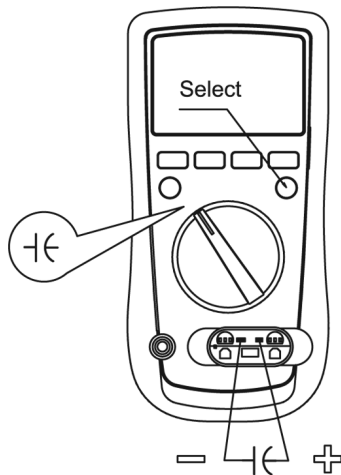

figure 7
- 1 Connect the test leads to the proper terminals as said above to avoid error display. The LCD will display OL indicating diode being tested is open or polarity is reversed. The unit of diode is Volt (V), displaying the forward voltage drop readings.
F. Capacitance Measurement (See figure 7)